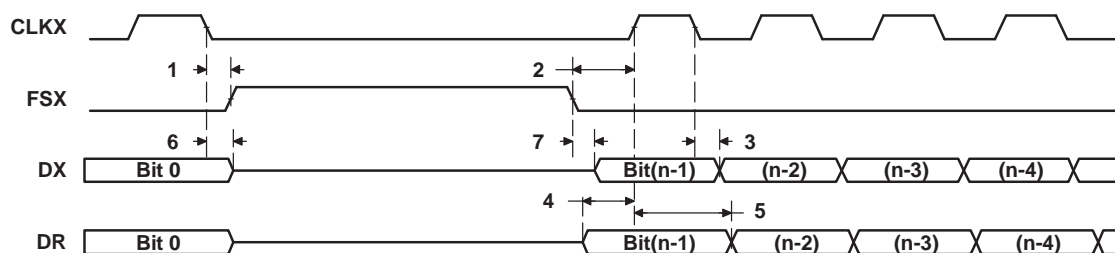

Figure 5-54. McBSP Timing as SPI Master or Slave: CLKSTP = 11b, CLKXP = 0
(see Figure 5-54)
(1) P = 1/CPU clock frequency in ns. For example, when running parts at 720 MHz, use P = 1.39 ns.
(2) For all SPI Slave modes, CLKG is programmed as 1/4 of the CPU clock by setting CLKSM = CLKGDV = 1.
Table 5-56. Switching Characteristics Over Recommended Operating Conditions for McBSP as SPI Master or Slave: CLKSTP = 11b, CLKXP = 0⁽¹⁾ (2) (see Figure 5-54)